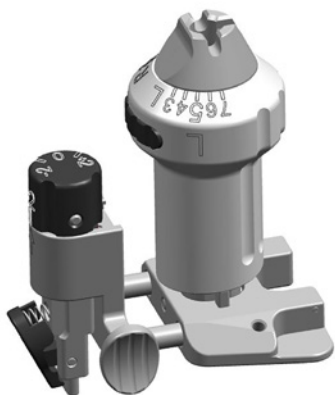

Figure 1
1. Attach the Adjustable Valgus Bridge to the Adjustable Valgus Guide. Dial on the bridge should point towards the button on the Valgus Guide (**Figure 1**).